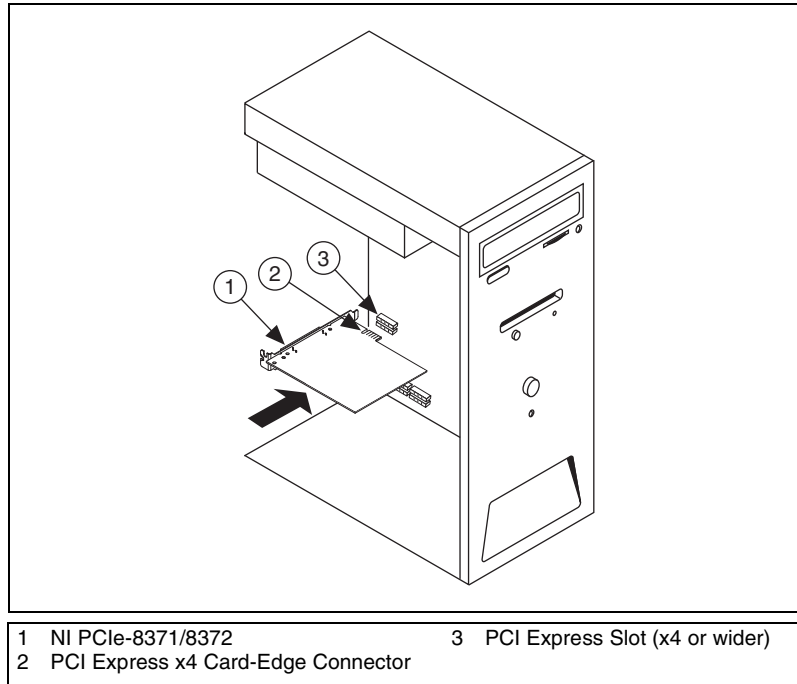

Figure 1. Installing the NI PCIe-8371/8372
7. Line up the NI PCIe-8371/8372 with the slot on the back panel. Slowly lower the NI PCIe-8371/8372 until its card-edge connector is resting on the expansion slot receptacle. Using slow, evenly distributed pressure, press the NI PCIe-8371/8372 straight down until it seats in the expansion slot, as shown in Figure 1.